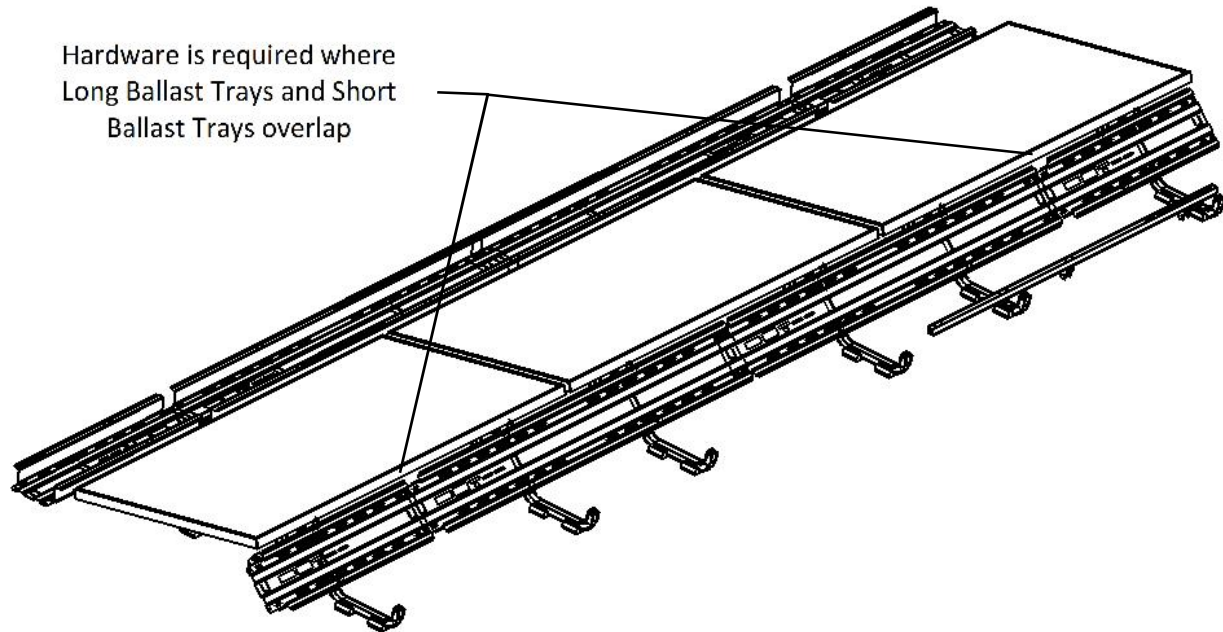

Figure 7 Attach Short Ballast Trays
14. Place Short Ballast Tray at either ends of the row and visually align the Short Ballast Tray with the edge of the module. Shift the Short Ballast Trays to find the appropriate slots. Either the slots or through holes of the Long Ballast Tray may be used to connect the Short and Long Ballast trays. Install the Short Ballast Trays using two ¼-20 x 0.5" serrated flange bolts and the pre-installed rivet nuts to attach the Long and Short Ballast Trays together. Install a serrated flange nut onto each support bolt (Figure 7). Nuts and bolts must be torqued to 4-6 ft-lb (48-72 in-lb).